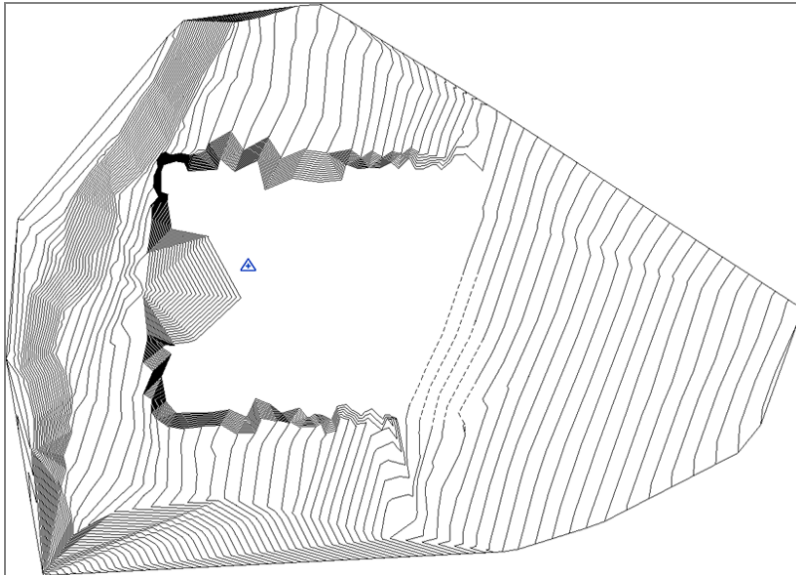

FIGURE 18.35: The site with cuts and fills
12. Verify that your site appears similar to Figure 18.35.